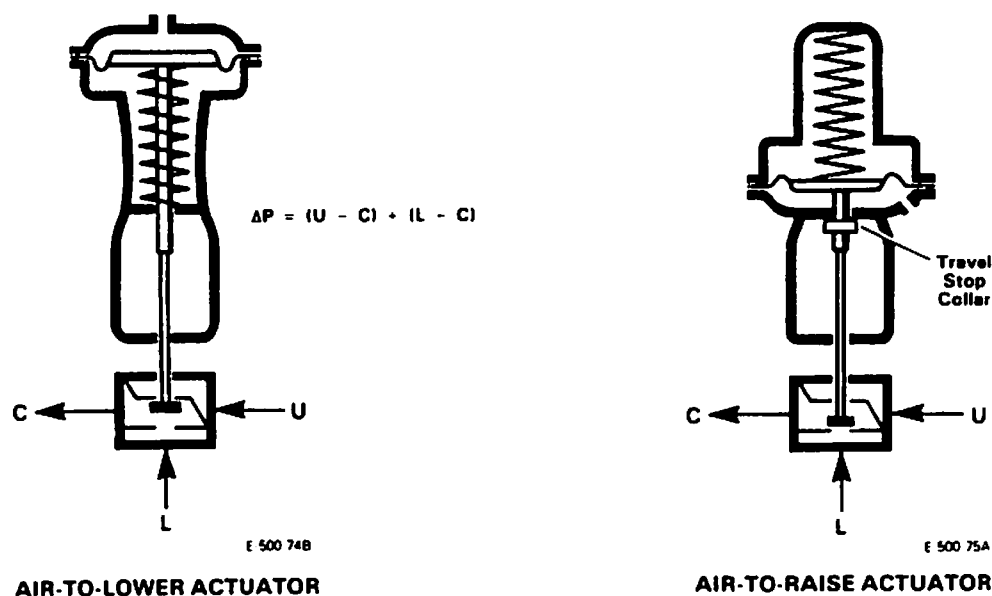

Figure 25. Throttling-Mixing Valve
4.6.1 Actuator with Throttling-Mixing Valve, Figure 25.